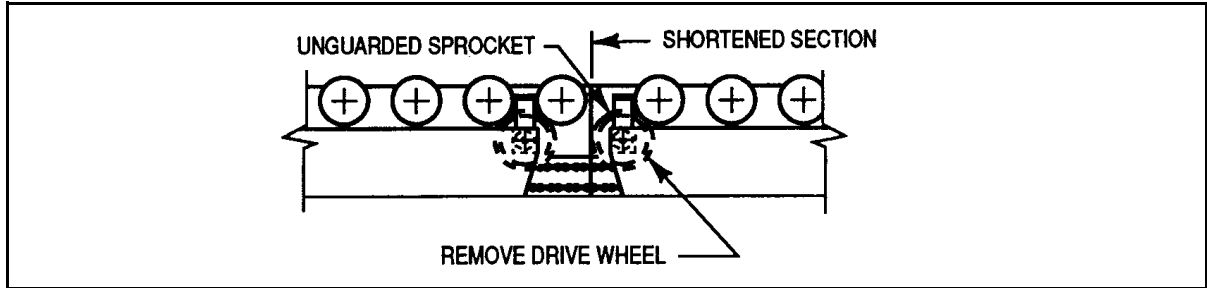

Figure G.54 – Removal of Unguarded Drive Wheel/sprocket
Step 6. **WARNING** - Remove the drive wheel assembly if the sprocket is exposed and unguarded (see Figure G.54).